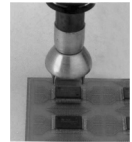

Fig.2
- Solder by heating the lead frame evenly (Fig.2).